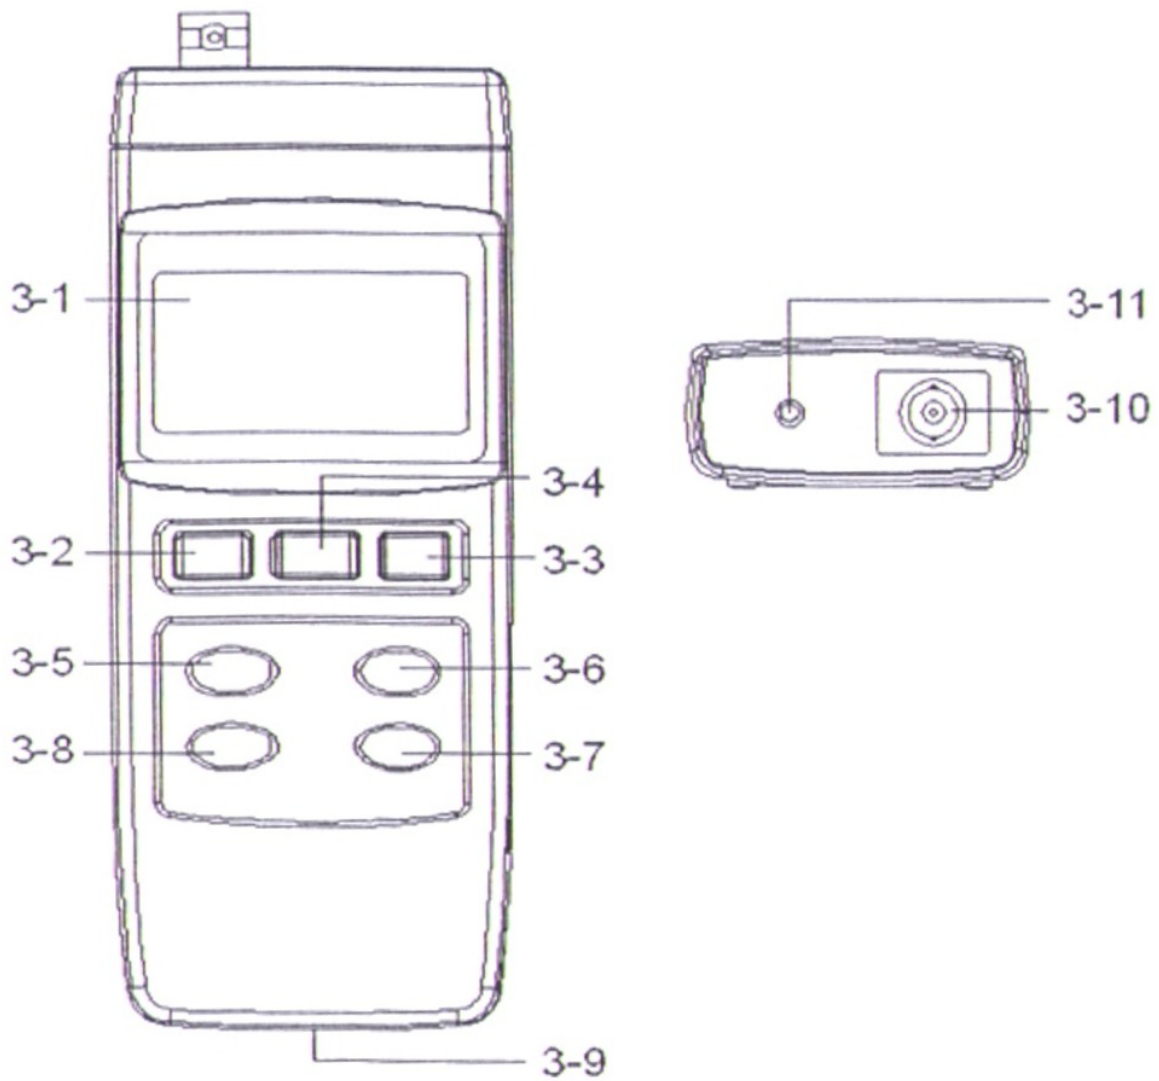

Fig. 1
- 1) Power on the instrument by pressing the " Power Button " (3-2, Fig. 1).
- 2) Press the " PH/mV Button " (3-6, Fig. 1) to let meter be operated under the PH function with a " PH " symbol on the display.
Connect the PH ELECTRODE with the " BNC socket " (3-10, Fig. 1) and immerse the electrode in the PH7 buffer solution.
Press the " CAL Button " (3-8, Fig. 1) then the upper display shows texts of " CAL " and the lower display shows the default calibration value.
- 1) Connect the PH ELECTRODE to the " PH BNC Input Socket " (3-10, Fig. 1).
- 2) Power on the instrument by pressing the " Power Button " (3-2, Fig. 1).
- 3) Press the " PH/mV Button " (3-6, Fig. 1) to select the PH function with a "PH" symbol on the display
Before the manual temperature compensation calibration procedures, please make sure there are no ATC probe (TP-07) in the " Optional Probe Input Socket" (3-11, Fig. 1).
- 2) Press the " PH/mV Button " (3-6, Fig. 1) to select the PH function with a " PH " symbol on the display
- 3) " TEMP. C Button " (3-7, Fig. 1) is used to adjust the following values :
- * **Press the " TEMP. C Button " (3-7, Fig. 1) first,**
- @ Use the " Left Button " (3-6, Fig. 1), " Up Button " (3-5, Fig. 1) and the " Down Button " (3-8, Fig. 1) to adjust the manual temperature compensation value.
- * **When the manual temp. compensation values be adjusted. Press the " TEMP. C Button " (3-7, Fig. 1) once again to adjust the PH 4 default calibration value.**
@ Use the " Up Button " (3-5, Fig. 1) and the " Down Button " (3-8, Fig. 1) to adjust the PH 4 default calibration value.
*** When the PH 4 default value be adjusted. Press the " TEMP. C Button " (3-7, Fig. 1) once again to adjust the PH 7 default calibration value.**
@ Use the " Up Button " (3-5, Fig. 1) and the " Down Button " (3-8, Fig. 1) to adjust the PH 7 default calibration value.
*** When the PH 7 default calibration value be adjusted. Press the " TEMP. C Button " (3-7, Fig. 1) once again to adjust the PH 10 default calibration value.**